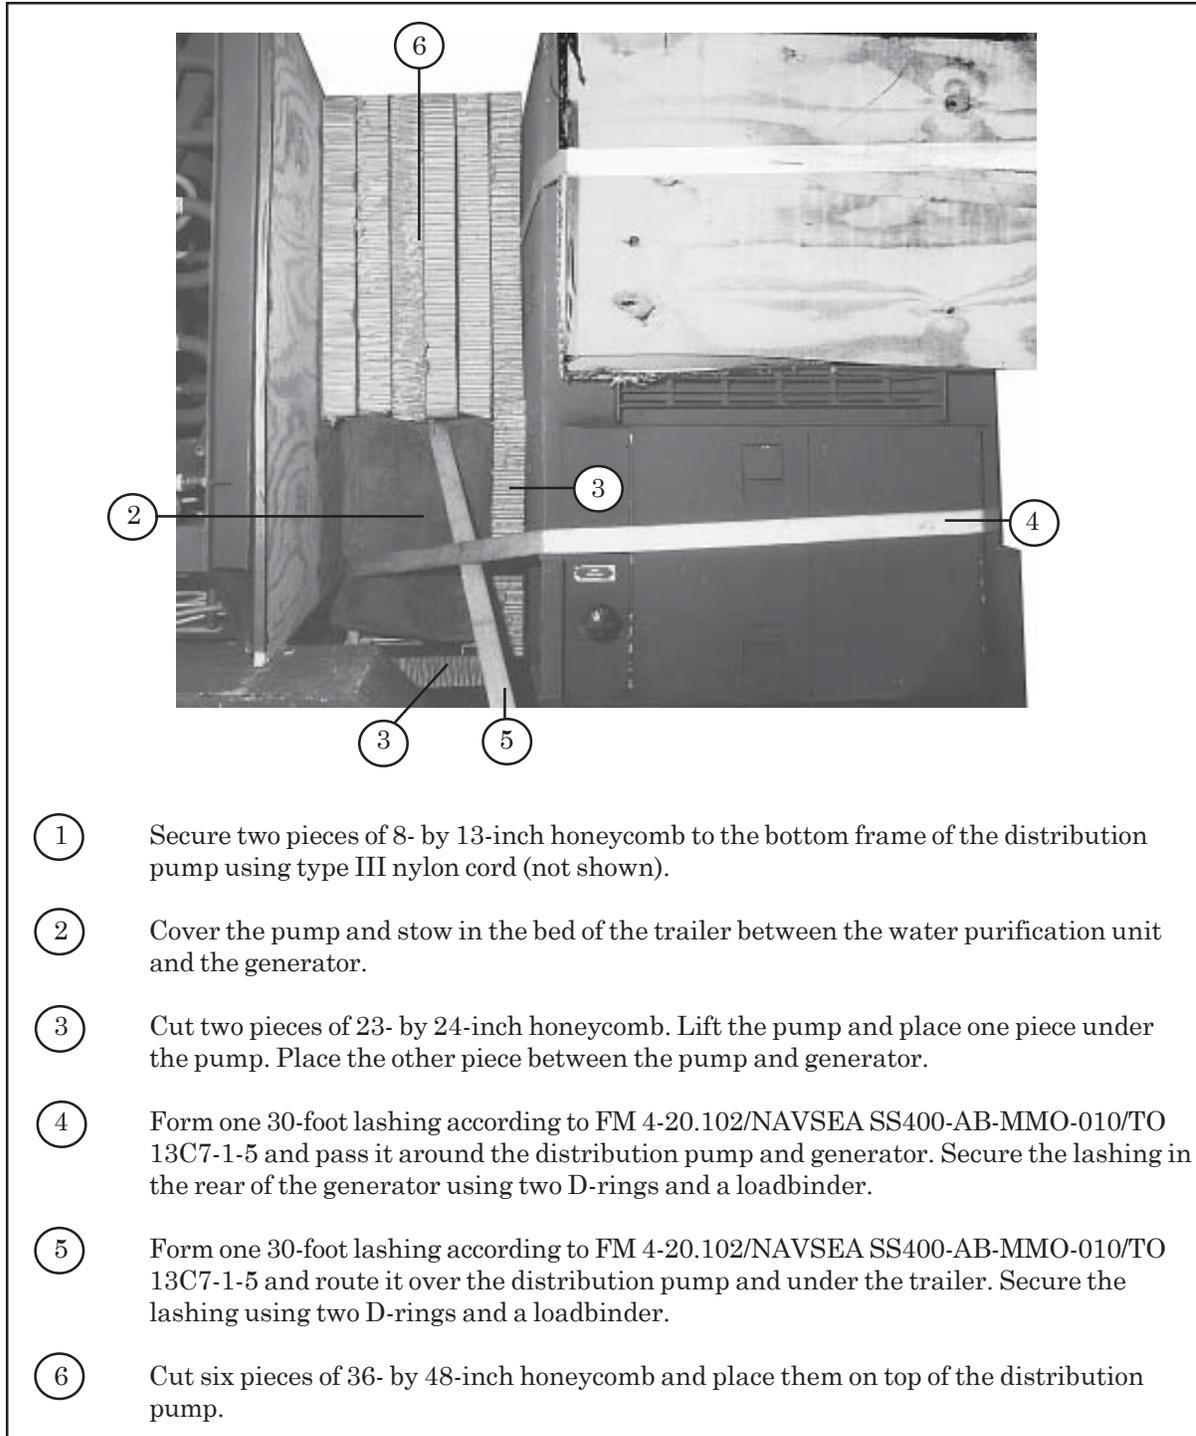

Figure 1-22. Distribution Pump Stowed and Secured
- v. Prepare, stow and secure the distribution pump as shown in Figure 1-22.